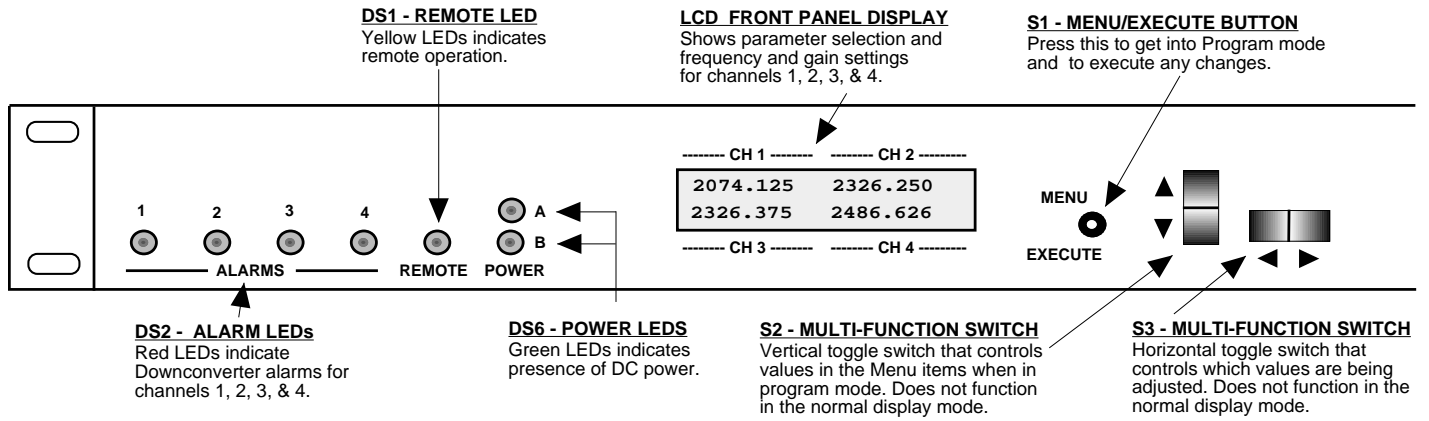

FIGURE 2.3 2415-425 Front Panel Controls and Indicators
7. Be sure DS6 (green, DC Power, PSA, PSB) is on and DS2 (red, Alarm) is off (Figure 2.3).
1. Menu/Execute - Any change to the programming of the unit must be initiated by pressing the Menu/Execute switch and completed by pressing the Menu/Execute switch (Figure 2.3).
2. Horizontal Switch - This switch is mounted so its movement is horizontal and moves the cursor left or right (Figure 2.3).
- a. During frequency, gain changes, the vertical movement will raise or lower the number in the direction of the arrows (Figure 2.3).
Alarm indications appear on the LEDs (See figure 2.3). An alarm condition will occur if any local oscillator phase lock loop (PLL) comes out of lock. The Remote LED will light when you select the Remote mode.